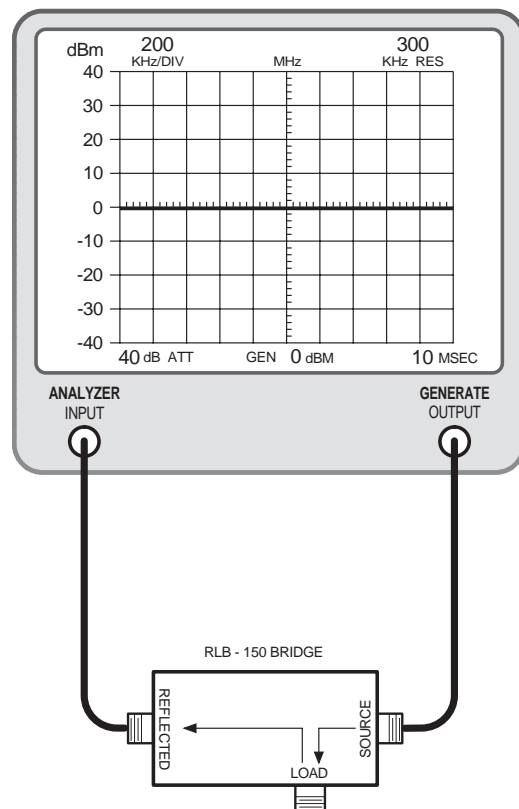

Figure 3: Setting the return loss reference.
1. A zero reference for return loss must be established at the IFR A-7550 prior to checking the passband frequency, this is done by connecting the return loss bridge to the analyzer / generator as shown in figure 3.
3. A zero reference for return loss must be established at the IFR-7550. Connect the RLB to the analyzer / generator as shown in figure 3.